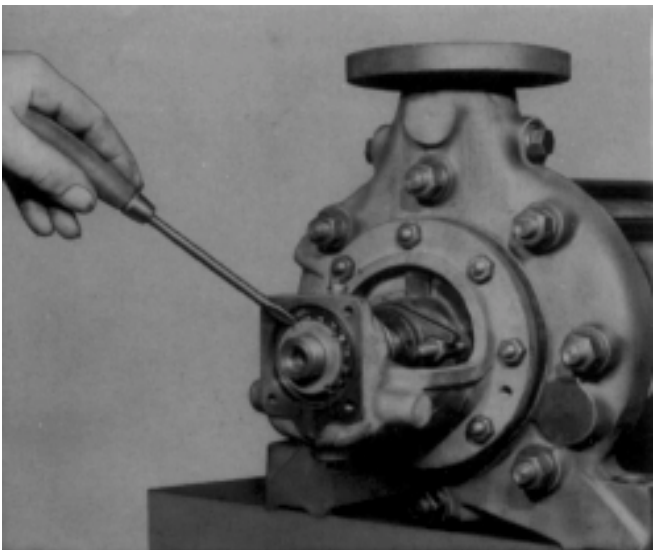

Fig. 27 Bending back the locking washer.
2. Remove bearing cover (361).
3. Bend back tab washer between ring nut of adaptor sleeve and cylindrical roller bearing (322). (see Fig. 27).